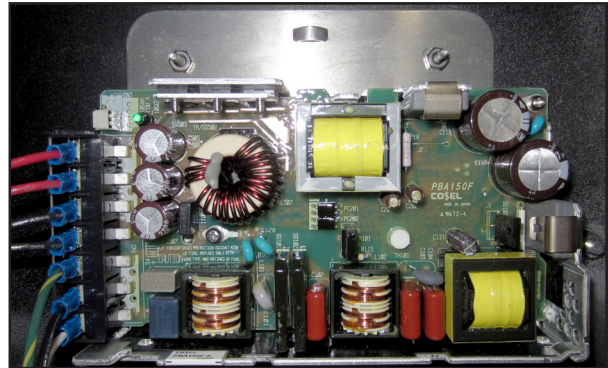

Figure 2: Power Supply
3. Using a $\frac{5}{16}$ " nut driver or wrench, remove the two nuts securing the power supply and support bracket to the cabinet; refer to **Figure 2**.